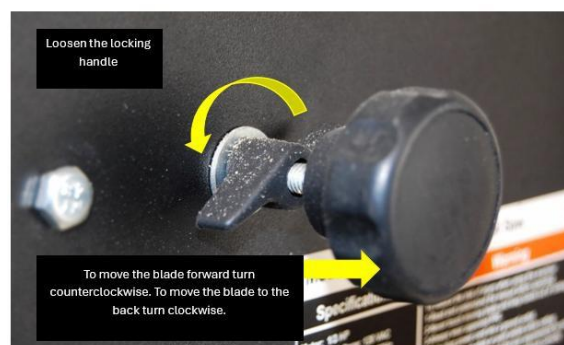

Figure 24: Blade tracking.
- 8- Reconnect the saw to the power supply and turn it on to see the position; if the position is not where it's supposed to be repeat all the steps above until it is. See figure 24.